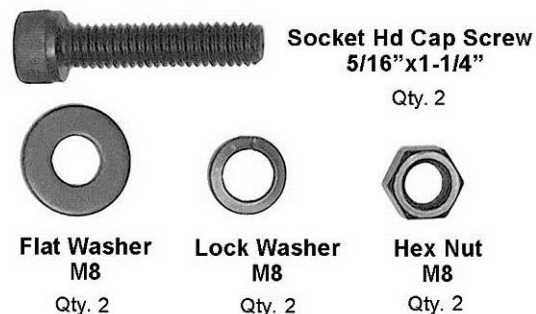

Figure 2
- 1 Hardware Package – (Figure 2)
* located inside Guide Tube (E)